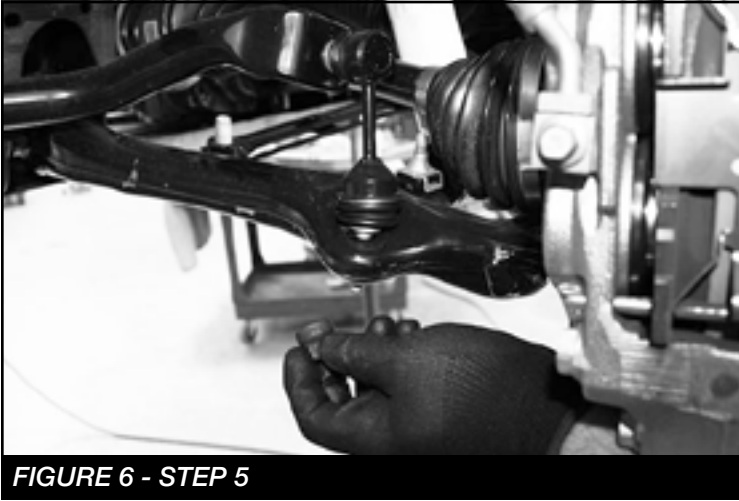

FIGURE 6 - STEP 5
5. Remove and save the sway bar link nut from the bottom side of the lower control arm. **SEE FIGURE 6**